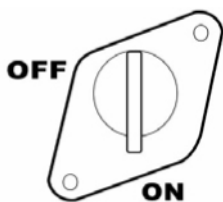

Figure 4 - Fuel Valve in the "on" position
3. Turn the fuel valve to the "on" position as shown in Figure 4.